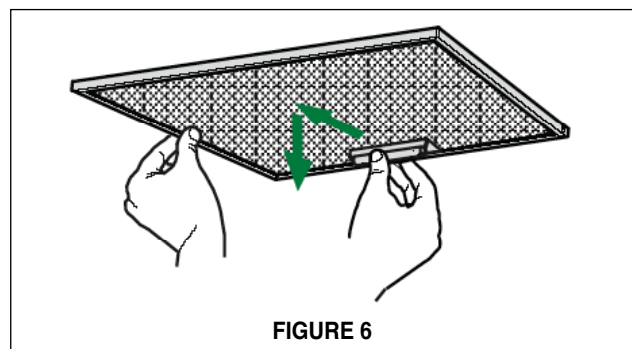

FIGURE 6
2. Using two hands, remove the grease filters one at a time by pushing the filter forward and pulling the handle down. (**FIGURE 6**)
1. Install the grease filters (**as indicated in FIGURE 6**)